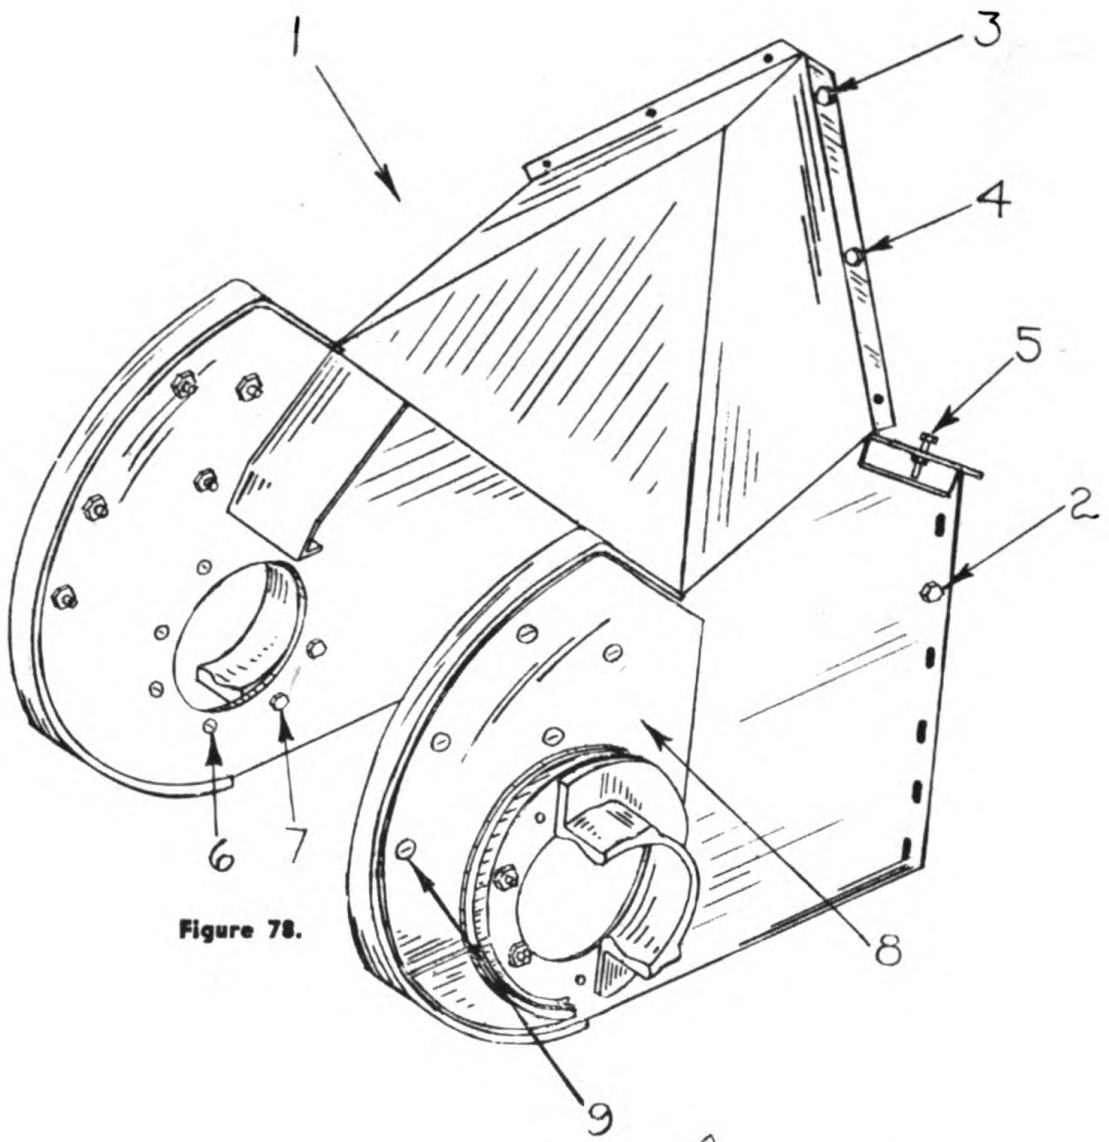

Figure 78.
Located between the spiral cutters and the footshaft sprockets are two stone ejector cams (8) Figure 78. The purpose of these cams is to eject any stone which may become lodged between the buckets and the spiral cutters.